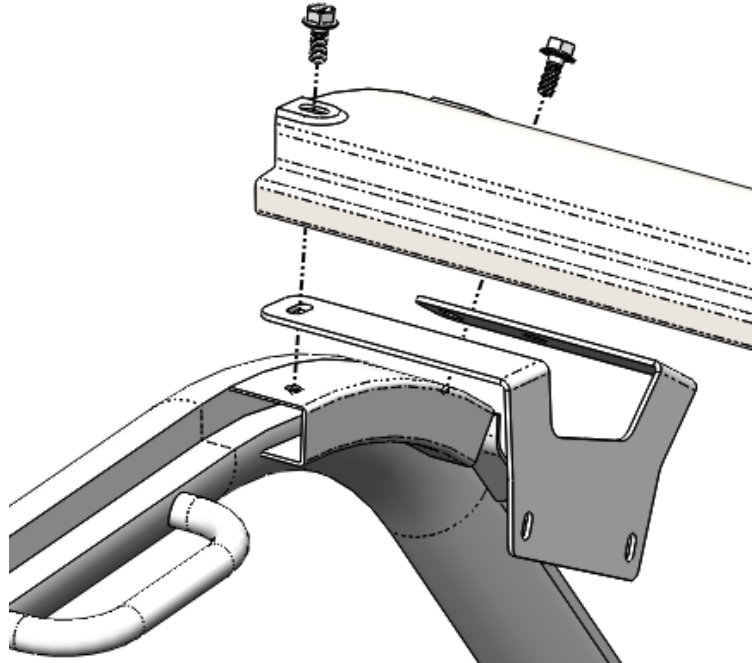

Figure 4: Mounting location of the *Audio Mini* bracket.
3. Place the driver's side bracket between the roll cage and front visor. Use the supplied M8 x 20 mm bolts and washers to snugly tighten the bracket until it is fully secured in the following steps. Verify correct orientation of the mounting bracket. See Figure 4. Note: Driver side shown. (Passenger side similar)
- Once you have the *Audio Mini* in your desired position, gently lift the roof to tighten all 4 visor bolts. Torque the bolts to 26 ft.-lbs. See Figure 4.